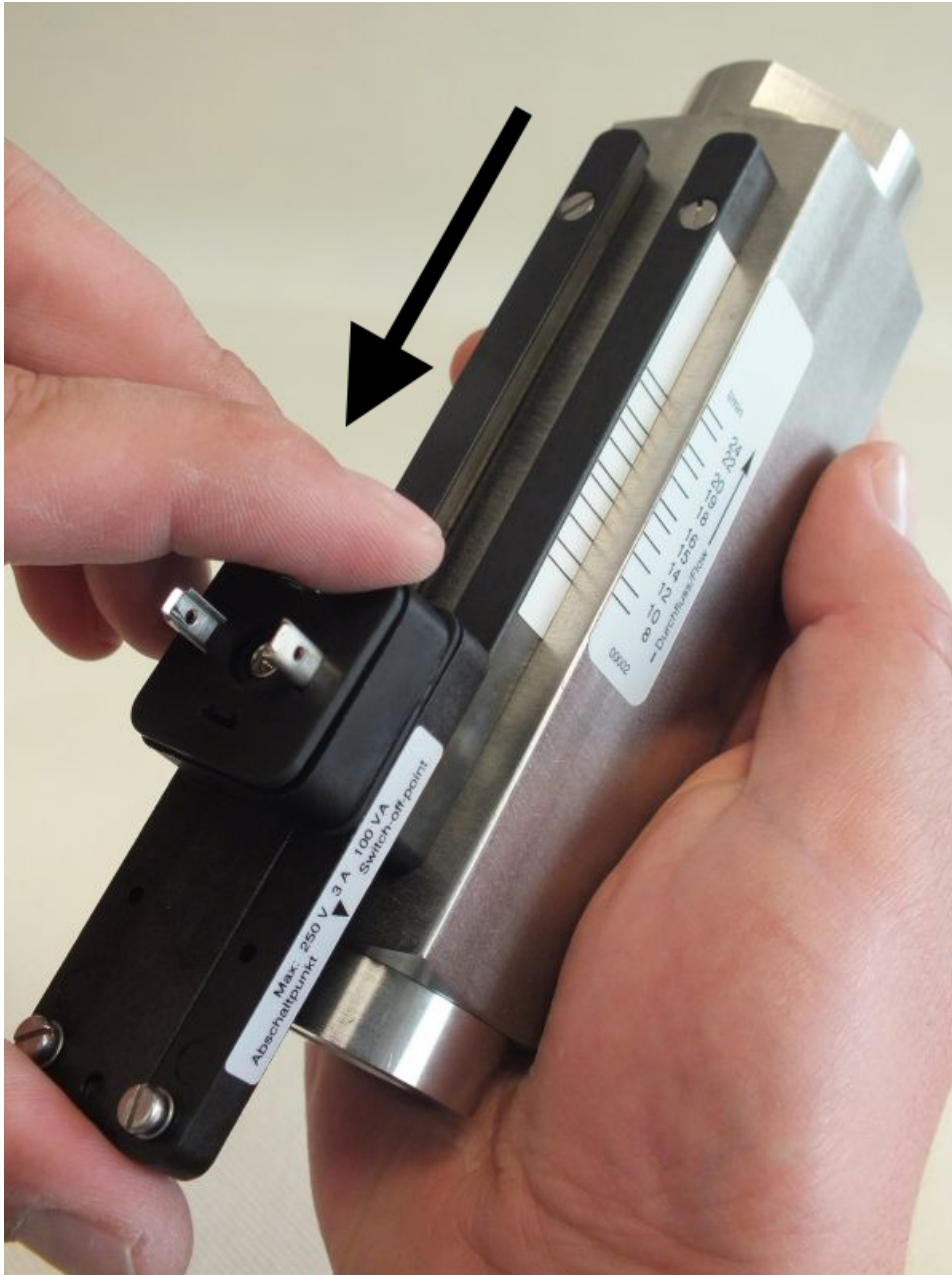

Fig. 61: Remove the switch contact from guide rails
4.  Slide the switch contact from the guide rail (Fig. 61).